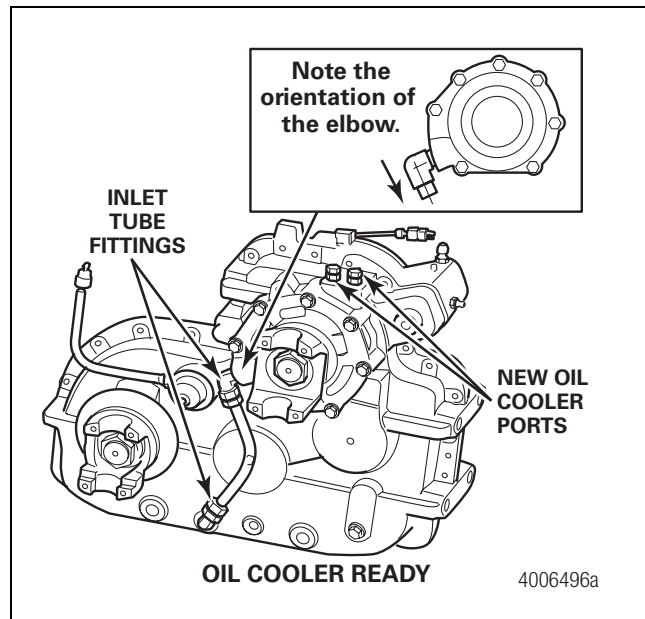

Figure 10
1. Install an elbow to the inlet port on the input cage. Note the orientation of the elbow. Use Loctite® 592 PST® thread sealant on the NPT threads. Tighten it to 35 lb-ft (47 N•m). Figure 10.